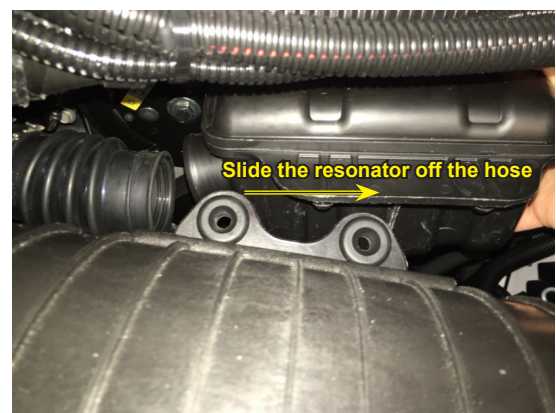

Figure 41. Slide Resonator Off Hose; Remove Resonator from under Hood
4. Slide the resonator off the hose that connects it to the air intake unit (Figure 41). Carefully remove the unit from under the hood. Remove the rubber grommets from the mounting location on the resonator.